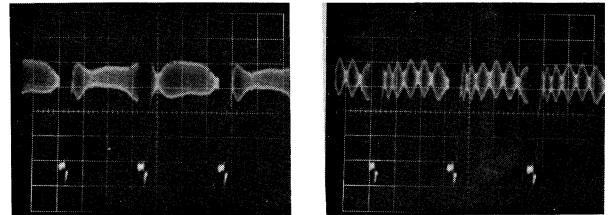

Fig. 4-2-15
- Rotate the pick-up tube by means of the pick-up tube socket and stop at the point where the waveform is flattest. (Fig. 4-2-15)